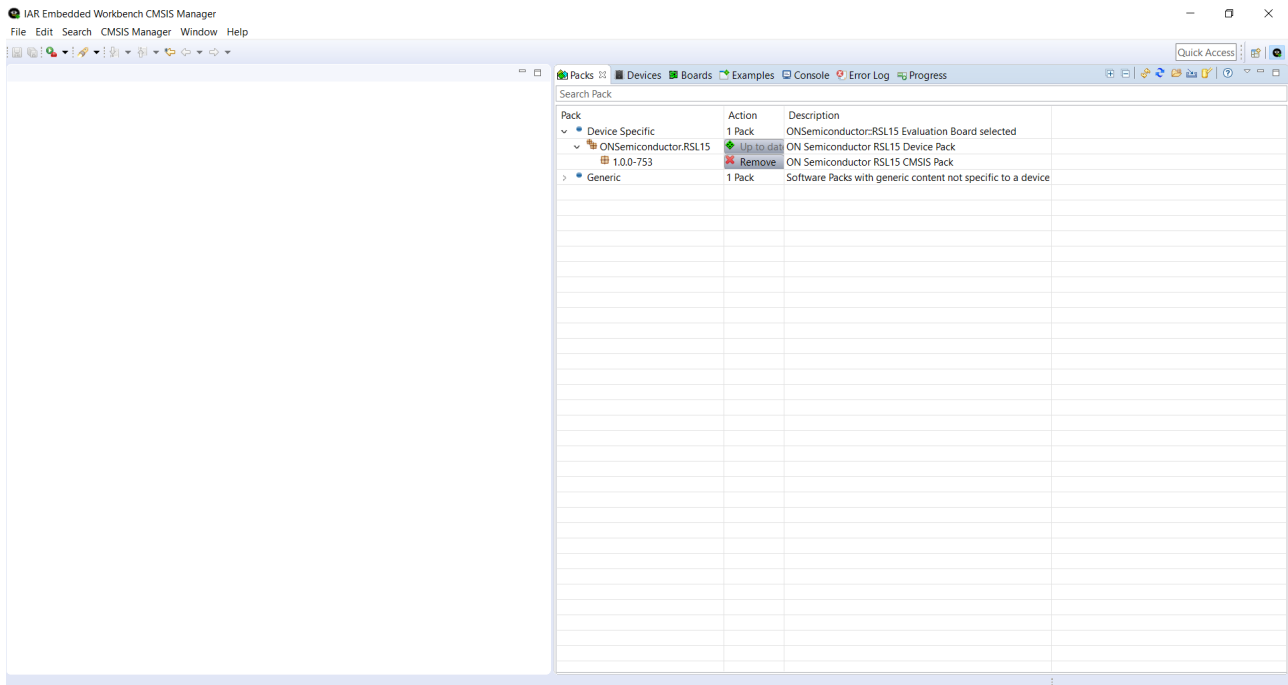

Figure 35. IAR Embedded Workbench CMSIS Manager after RSL15 CMSIS-Pack is Installed
- In the **Devices** tab, expand **All Devices > ON Semiconductor > RSL15 Series**, and select **RSL15** from the list. The RSL15 CMSIS-Pack now appears in the list of installed packs in the **Packs** tab. Expanding **ON Semiconductor.RSL15** makes the **Pack Properties** tab display the details of the RSL15 CMSIS-Pack. The "IAR Embedded Workbench CMSIS Manager after RSL15 CMSIS-Pack is Installed" figure (Figure 35) illustrates what the **Pack Manager** perspective looks like after installation.